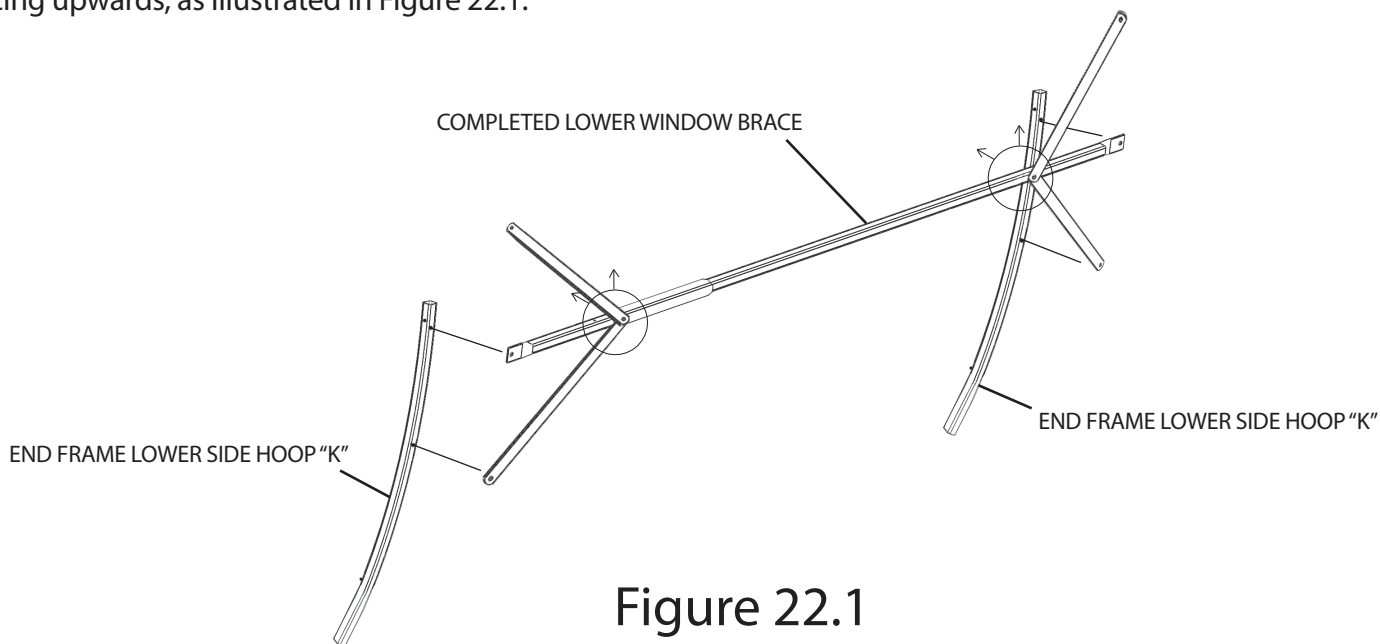

Figure 22.1
STEP 14: Locate the (3) parts that will be assembled to create the fifth section of the bale blind frame. These parts are (2) END FRAME LOWER SIDE HOOPS "K" and (1) COMPLETED LOWER WINDOW BRACE. Using the hardware connection in (2) places, align and fasten the hole ends in the COMPLETED LOWER WINDOW BRACE with the upper most holes in the (2) END FRAME LOWER SIDE HOOPS "K", and fasten with (2) Bolts and (2) Nuts. Next align the hole ends of the bottom (2) CROSS MEMBER BRACES "G" with the corresponding holes in the (2) END FRAME LOWER SIDE HOOPS "K", and fasten with (2) Bolts and (2) Nuts, as illustrated in Figure 22.1.
NOTE: Step 14 assembly is similar to Step 7. On the COMPLETED LOWER WINDOW BRACE, make sure (2) Set Screws already installed are facing towards what would be the interior of the blind, while the other (2) Set Screws already installed are facing upwards, as illustrated in Figure 22.1.